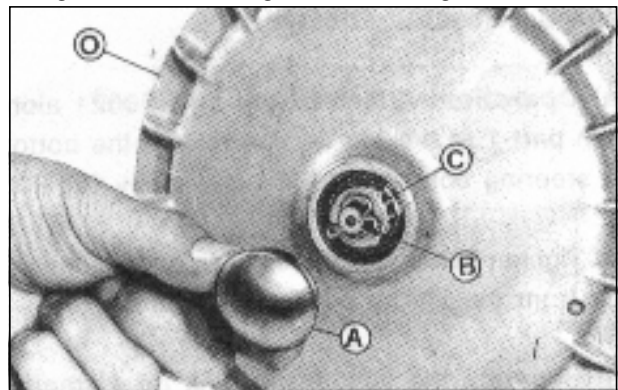

Fig. 200-Reassembly of brake drum
- (e) Place lock cap 'C' and lock with split pin (f) 'B'. Fix dust cap 'A'. (fig.200)